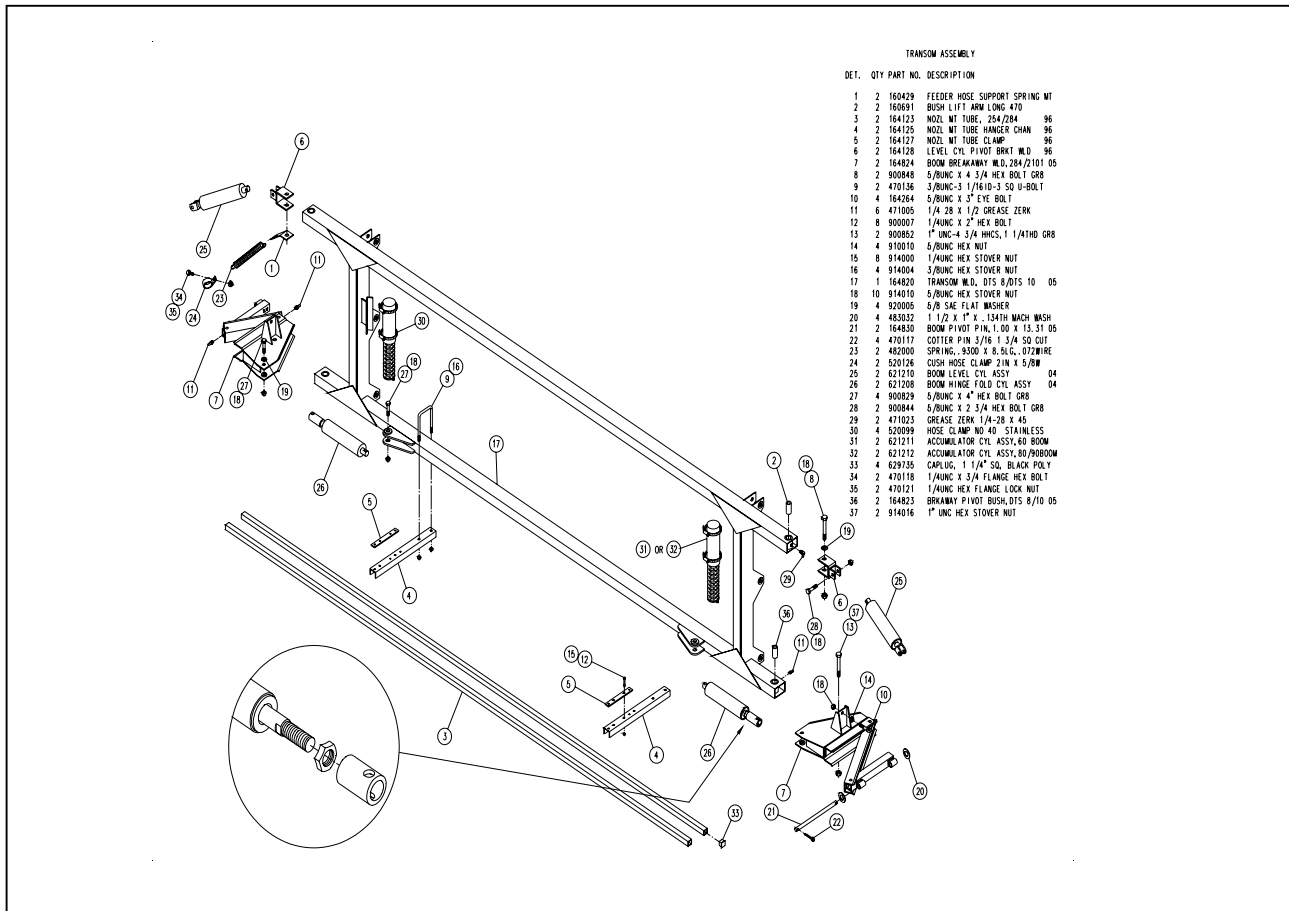

FIG 4.6
1. Install the transom weldment (fig. 4.6, item 17).
- After the outer booms have been installed, adjust the fold cylinder sleeve (page 25, fig. 4.6, item A) until the booms are parallel with the transom. Then use this same adjustment to allow the boom to fold in far enough to locate in the boom cradle. Lock the cylinder sleeve in place with the jam nut (page 25, fig. 4.6, item B).